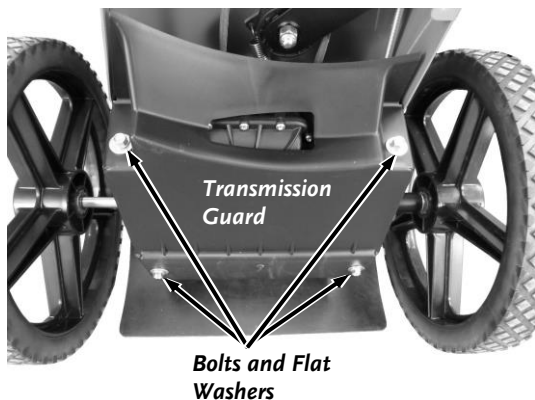

Figure 37
4. Remove the four Transmission Cover Bolts and Flat Washers with a 3/8" Wrench. Remove the Transmission Cover (Figure 37).
20. Install the Transmission Cover and secure with the four Bolts and Flat Washers using a 3/8" Wrench (**Figure 37**).